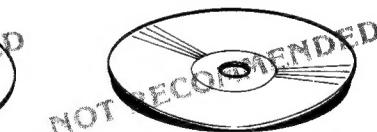

Fig. 4
- Do not affix paper or tape, and avoid scratching the side of the disc which contains the label (contents of disc). (Fig. 4)